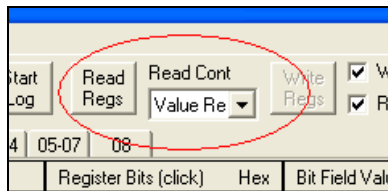

Figure 1 – "Read Cont" field
3. To choose a continuous register update, set the "**Read Cont**" field at the top of the software to 'All Regs' or 'Value Regs' (figure 1). To manually read the registers, set this field to 'OFF' and push the "Read Regs" button for every read.